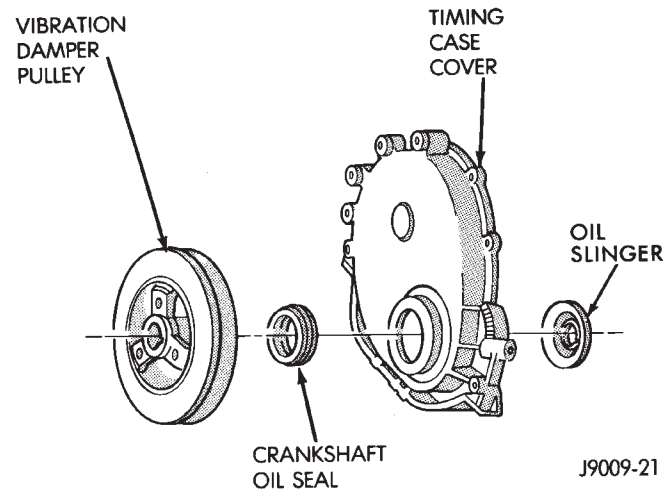

Fig. 2 Timing Case Cover Components
- (8) Pry the crankshaft oil seal from the front of the timing case cover (Fig. 2).